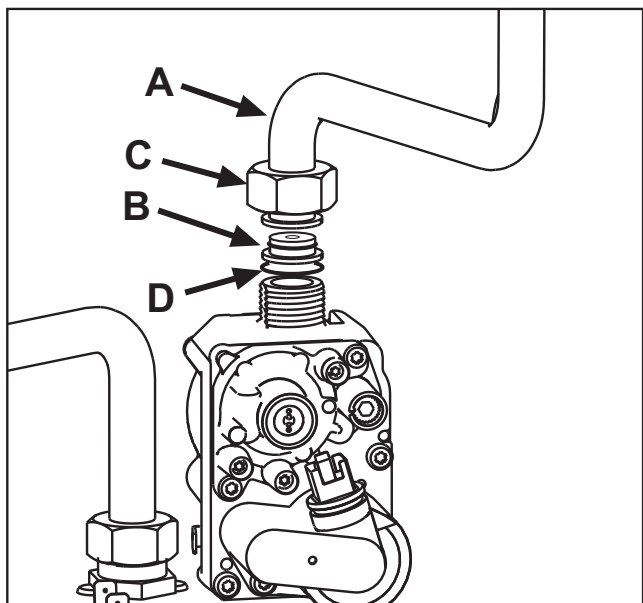

fig. 23
3. Unscrew ring **C** and remove gas pipe **A** from the gas valve (see fig. 23).
4. Replace nozzle **B** inserted in the gas pipe with that contained in the conversion kit, interposing seal **D** (see fig. 23).